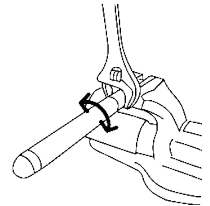

Figure 2.
5. Twist the head clockwise by hand and tighten with wrench tightly (figure 2).